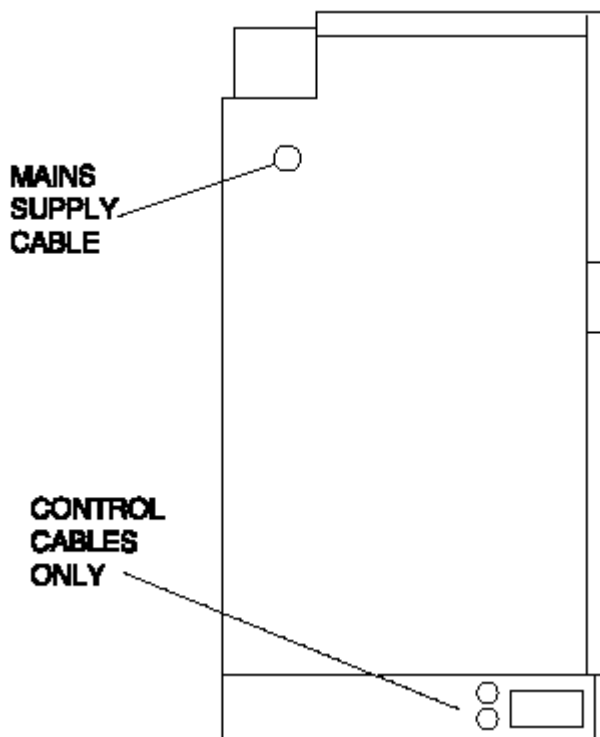

Fig. 9.6 Route for incoming electric cables
3. Connect one end of electricity supply cable to the user terminal in accordance with sections 4 and 10. The cable must be routed via the anchorage and through the bushing in LH side panel. See Fig. 9.6.
Ensure that the cable is routed via the anchorage and through bushing in LH side panel. See Fig. 9.6. Trim all excess length from main supply cable.